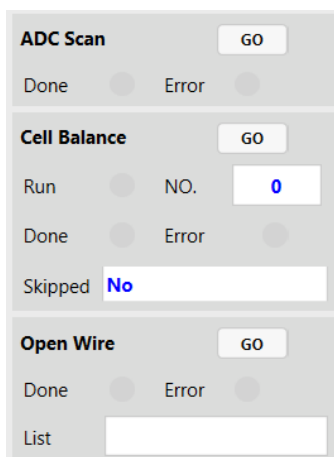

Figure 33: ADC, Cell-Balancing, and Open-Wire Control and Monitor Configuration
28. Figure 33 shows how to configure the ADC, cell-balancing, and open-wire control parameters.